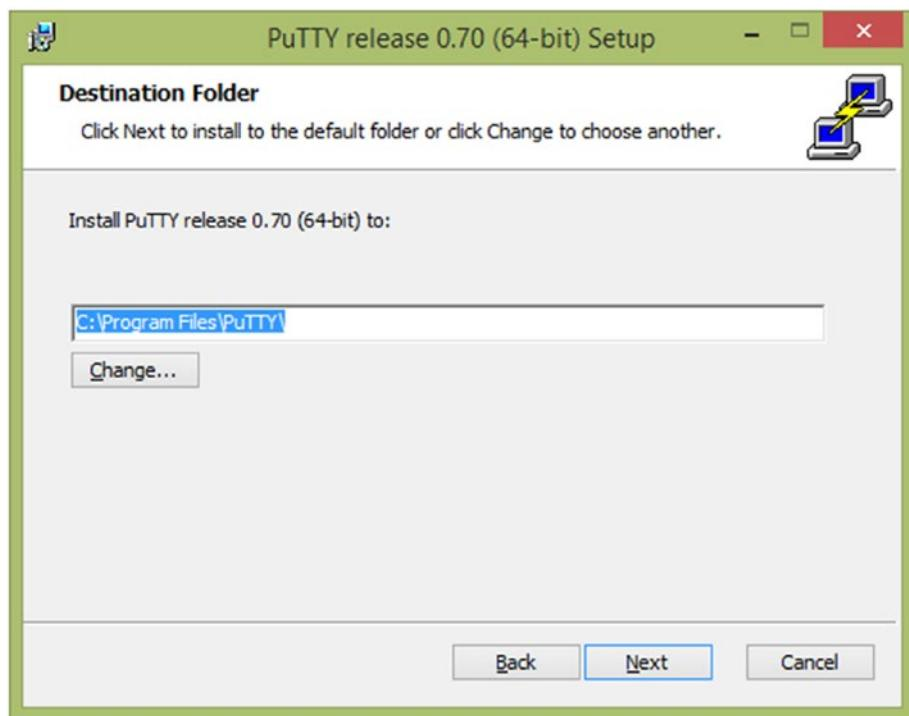

Figure 3-31. Choosing a destination folder for installation
4. For the default destination folder, PuTTY will install into C:\Program Files\PuTTY\. If you want to install PuTTY in a different directory, first click the Change button. Then browse to a new destination folder. Finally, click the Next button to continue (Figure 3-31).